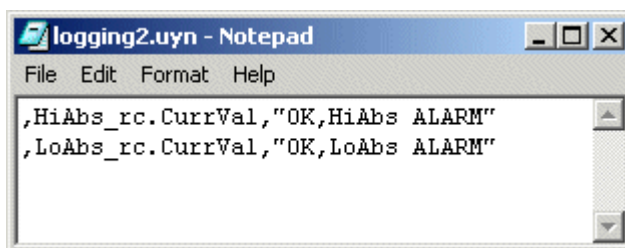

Figure 4-7 .uyn file assigning user enumerations — example
- 1 Open up 'Notepad' or a similar text editor and type in the two lines of text *exactly* as shown in Figure 4-7. The format used for each line in the file is: